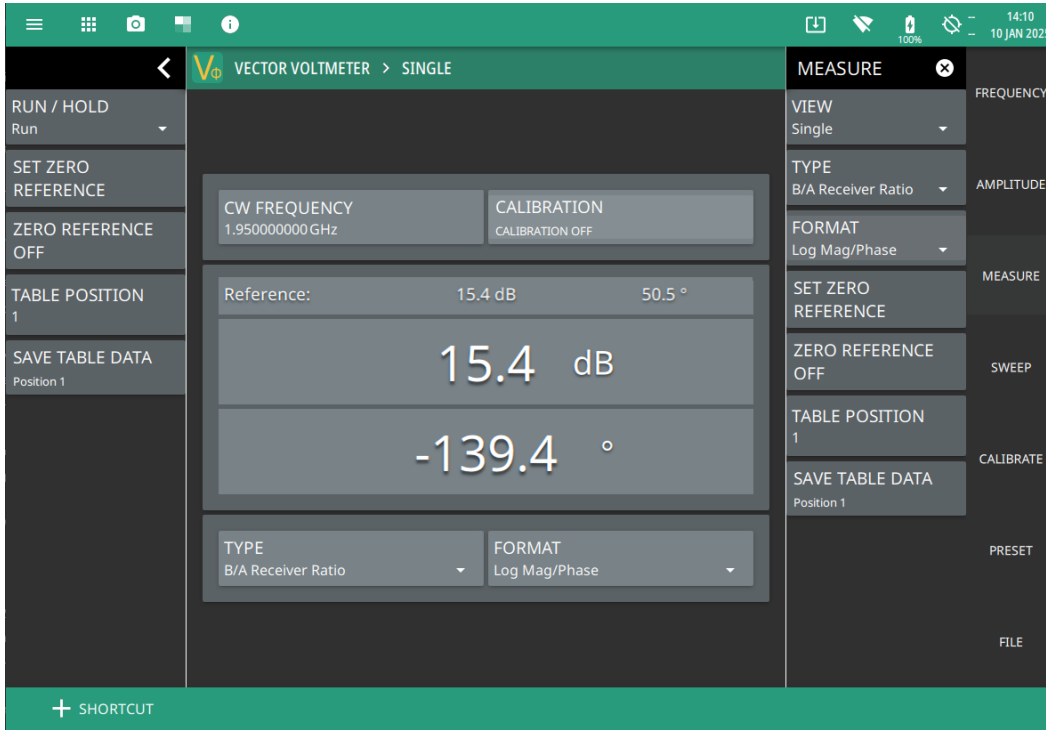

Figure 3-11. Relative Reflection Measurement
- As shown in Figure 3-11, the current measurement is saved and displayed as the Reference Value (at the top of the VVM display). The displayed values are now relative to the saved values, which are the difference between the current measurement and the saved reference. In other words, saving a reference will normalize the results to the current measurement.